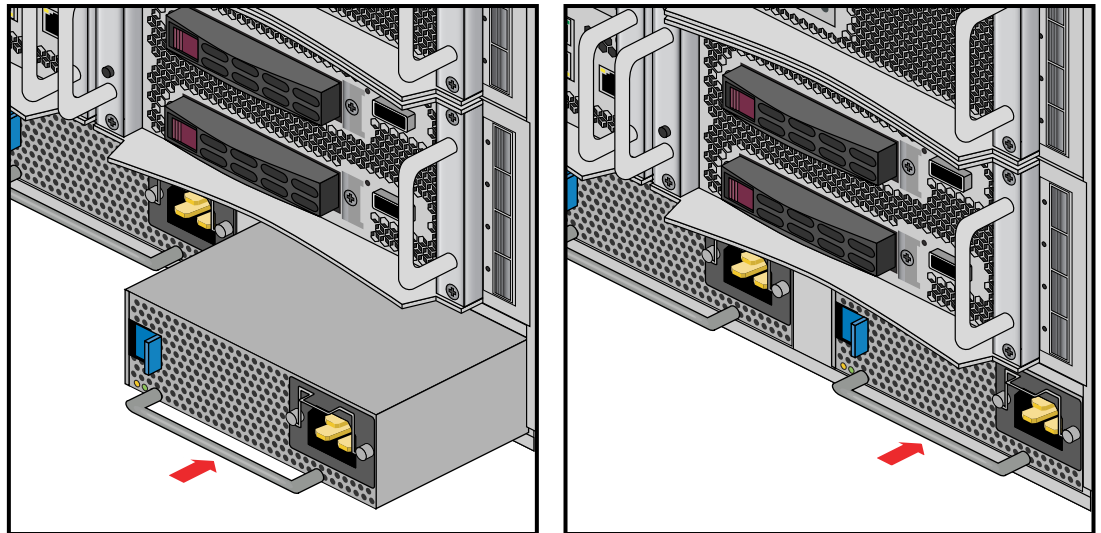

Figure 6-5 Replacing an IRU Enclosure Power Supply
5. Align the rear of the replacement power supply with the enclosure opening, see Figure 6-5.